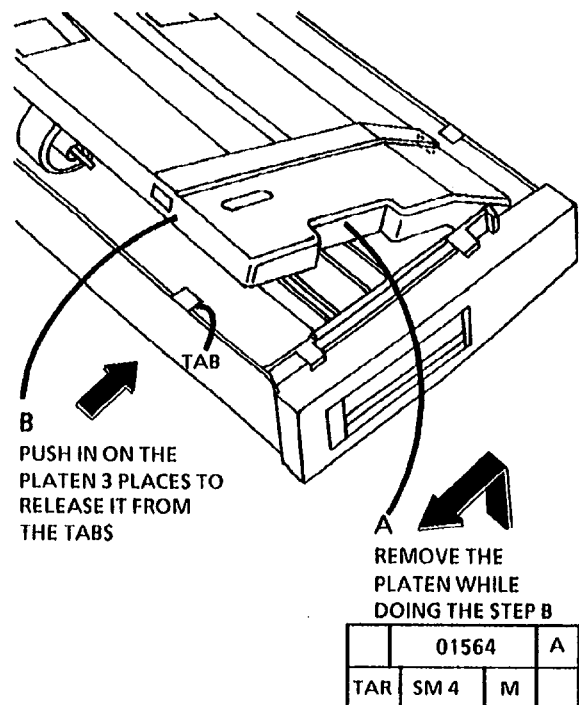

Figure 1. Remove the Document Platen
3. (Figure 1): Remove the Document Platen.